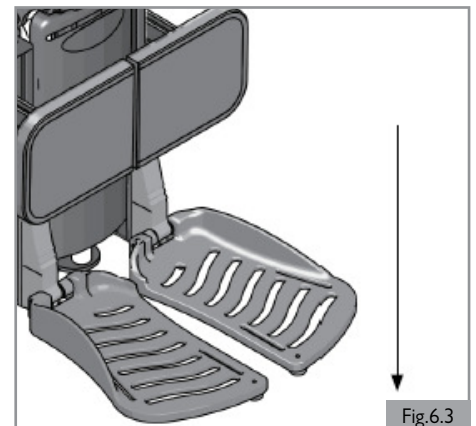

Fig.6.3
Lower the centermount foot plate (Fig. 6.3)
4. Push the joystick forward until the footplates rest fully on the ground. (Fig. 6.3)